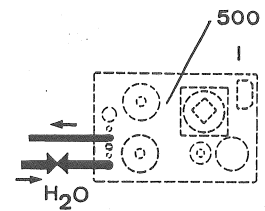
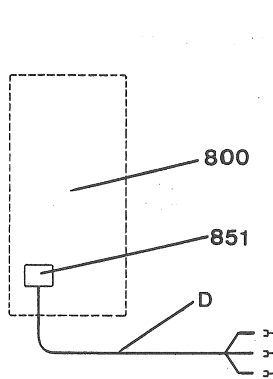

Fig 15
Fig 16
6. Connect the dielectric tank (500) to the water supply (fig. 15). These hoses are to be furnished by the customers.
7. Install the generator (800) in its final location.
8. Set up the generator (800), (refer to chapter "SETTING UP OF THE GENERATOR").
9. Connect the cable (D), from the input of the junction box (851) on the generator (800) (fig. 16), to the electrical power outlet. The cable (D) and the plug are to be furnished by the customers.